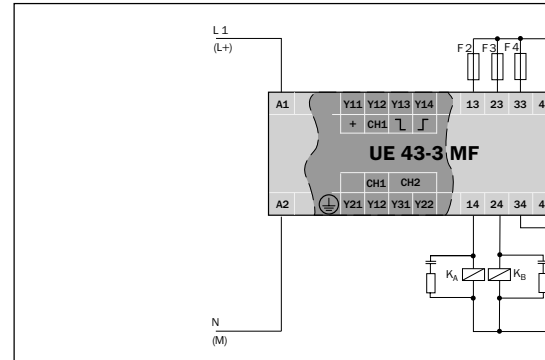

Fig. 2: Basic wiring: voltage supply, 3-channel output circuit (see *Technical Data*)
- To prevent the final switching device contacts from welding, a fuse, rated to provide protection from short circuit to max. 6 A (Operation Class gG), is to be incorporated in the output circuitry (refer to Fig. 2, fuses F 2 / F 3 / F 4).